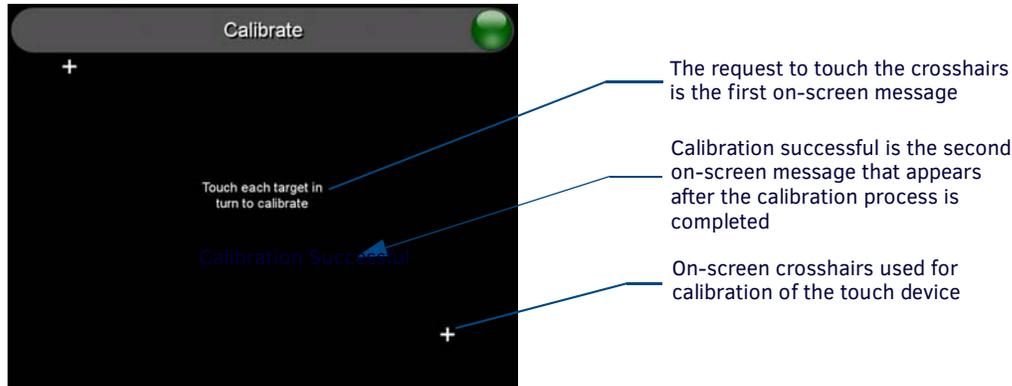

FIG. 5 Touch Panel Calibration Screens
1. Press and hold the Sleep button with a pointed instrument for **6 seconds** (passing-over the Setup page) to access the *Calibrate* page (FIG. 5):